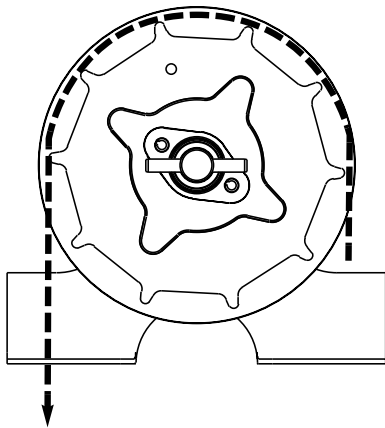

Fig. 10
1. Route the hand chain through the chain guide, around the pocket wheel and back through the chain guide. Fig.10.